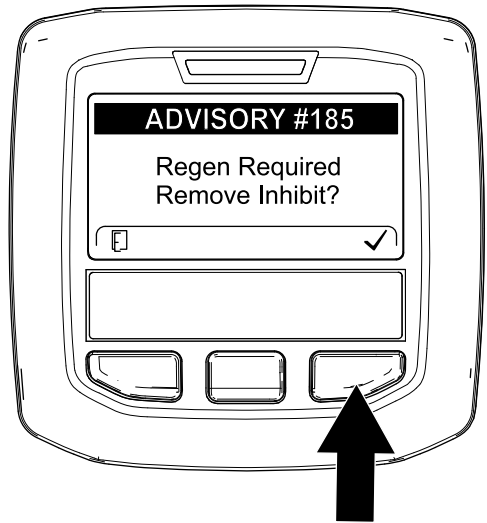

Figure 44
**Note:** If INHIBIT REGEN is set to ON, the InfoCenter displays ADVISORY #185 (Figure 44). Press button 3 to set inhibit regeneration setting to OFF and continue with the reset regeneration.